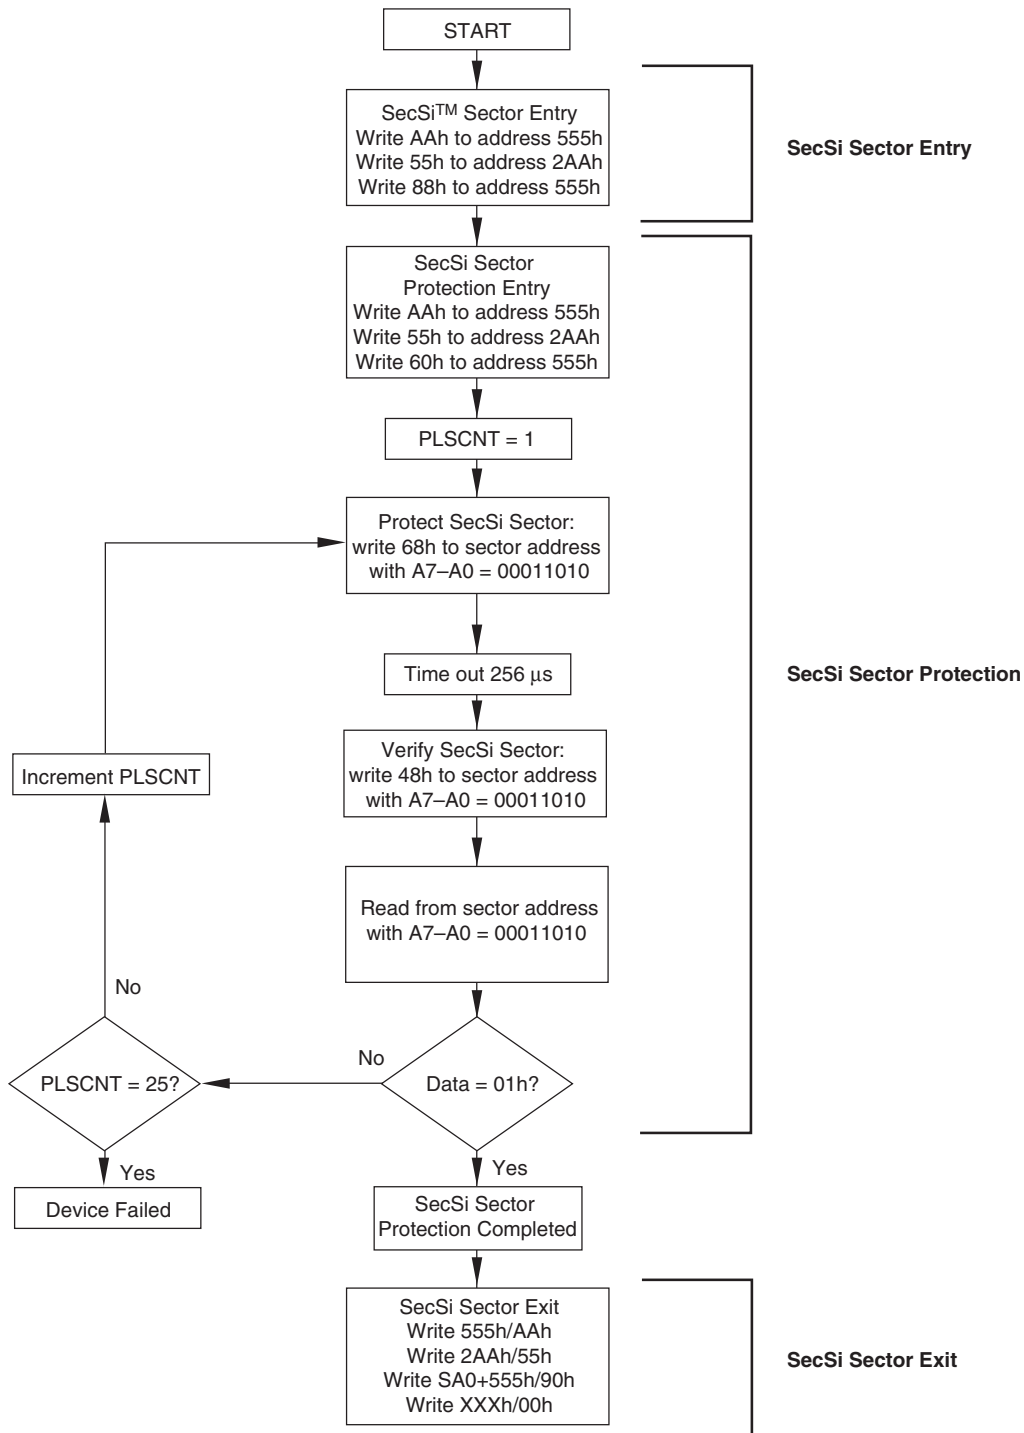

Figure 3. PDL127/9H SecSi Sector Protection Algorithm
- Follow the SecSi Sector Protection Algorithm as shown in Figure 3. This allows in-system protection of the SecSi Sector without raising any device pin to a high voltage. Note that this method is only applicable to the SecSi Sector.